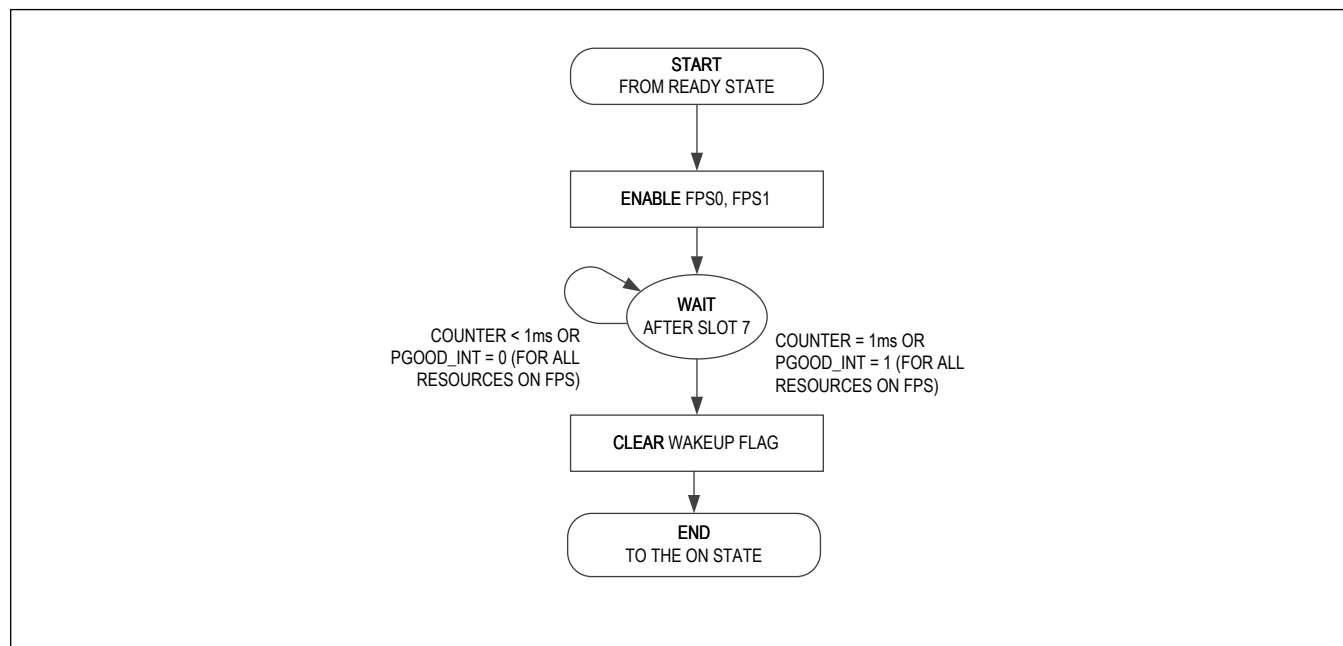

Figure 6. Flow Chart—Power-Up Sequence
- During the power-up sequence (Figure 6), the slots count upwards from 0 to 7.